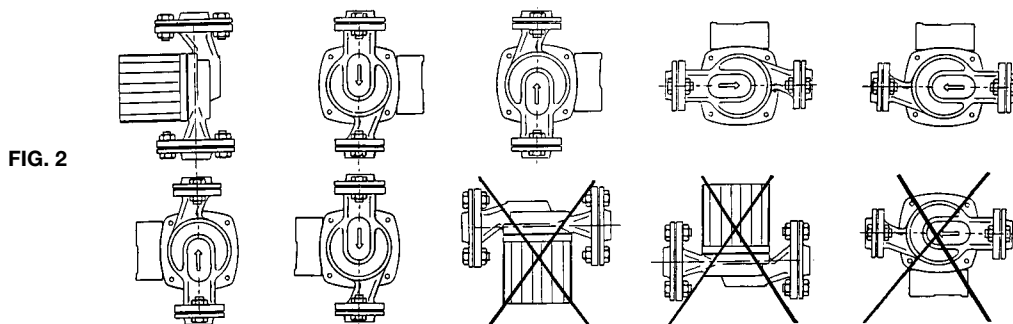

FIG. 2
The Model NRF/NBF/SSF Circulator can be installed to discharge up or down, horizontally, left or right, but the motor shaft must remain in the horizontal position, the arrow on the body must point in the direction of the flow, the conduit box must be positioned on the top or to the side of the motor housing (see figure 2). If the conduit box position must be changed, it is best to do so before installation. However, if the pump is already installed, see the section titled "REMOVAL OF PUMP FROM EXISTING SYSTEM FOR REPLACEMENT" before proceeding.
1. Remove the four (4) $\frac{1}{4}$ -20 Allen screws ($\frac{3}{16}$ wrench) while supporting the motor assembly.
2. Remove the motor assembly from the pump body and rotate it to the desired position (see figure 2).